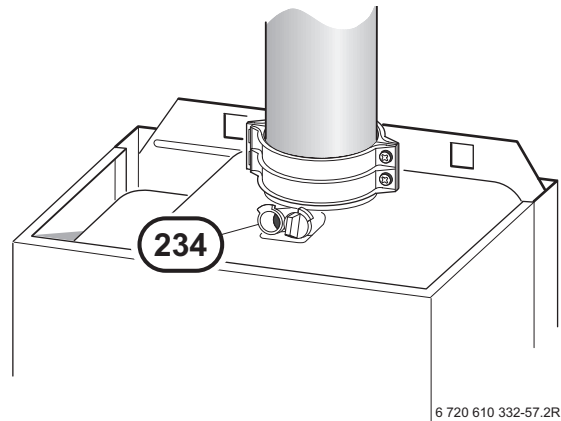

Fig. 40
- ▶ Switch on the appliance at the master switch (I).
- ▶ Unscrew sealing plug from flue gas testing point (234). Refer to fig. 40.